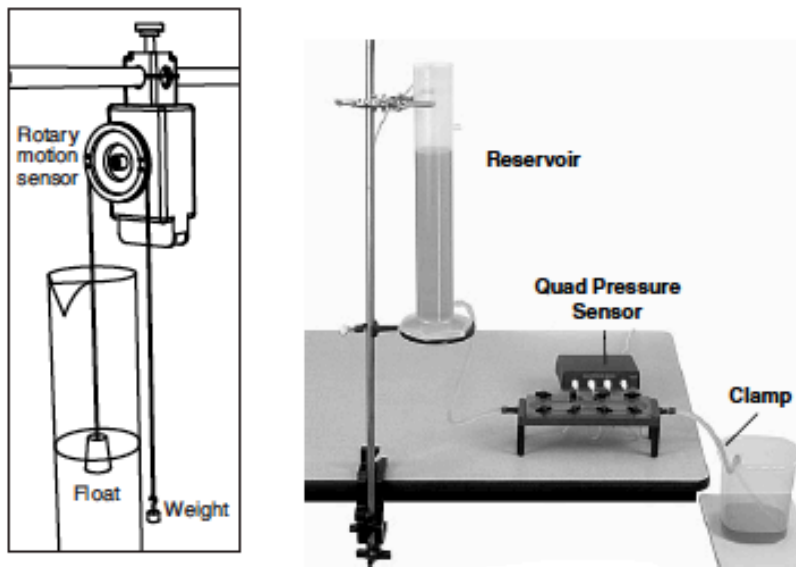

Figure 4: Table Top setup with inset detailing rotary motion sensor usage to capture velocity of water out of the reservoir
This apparatus and sensor system will be attached, via hoses, to a large graduated cylinder and water collector. The Quad Pressure Sensor will be attached to Pasco Capstone 850 interface and students will be able to monitor pressure and velocity of the liquid exiting the graduated cylinder with respect to time. Look at figures 4 for an image of the complete experimental layout.
1. The experiment should be setup according to figure 4 when you arrive. If not- put water through the system and test for leaks before. Also – make sure no air bubbles are in the Venturi reservoir – close the clamp with water still in the Venturi apparatus and refill the reservoir for testing. (Please see instructor on how to tilt the apparatus to get rid of air bubbles if having any trouble. Tilting too much may allow water to pass into the Pressure sensors and therefore break the pressure sensors beyond repair.)
2. Line up the rotary motion sensor over the reservoir (graduated cylinder) and ensure that the mass is free hanging and the float (a golf ball with a hook) is not resting on the sides of the reservoir. Then clamp the rotary motion sensor above the reservoir (see Figure 4).